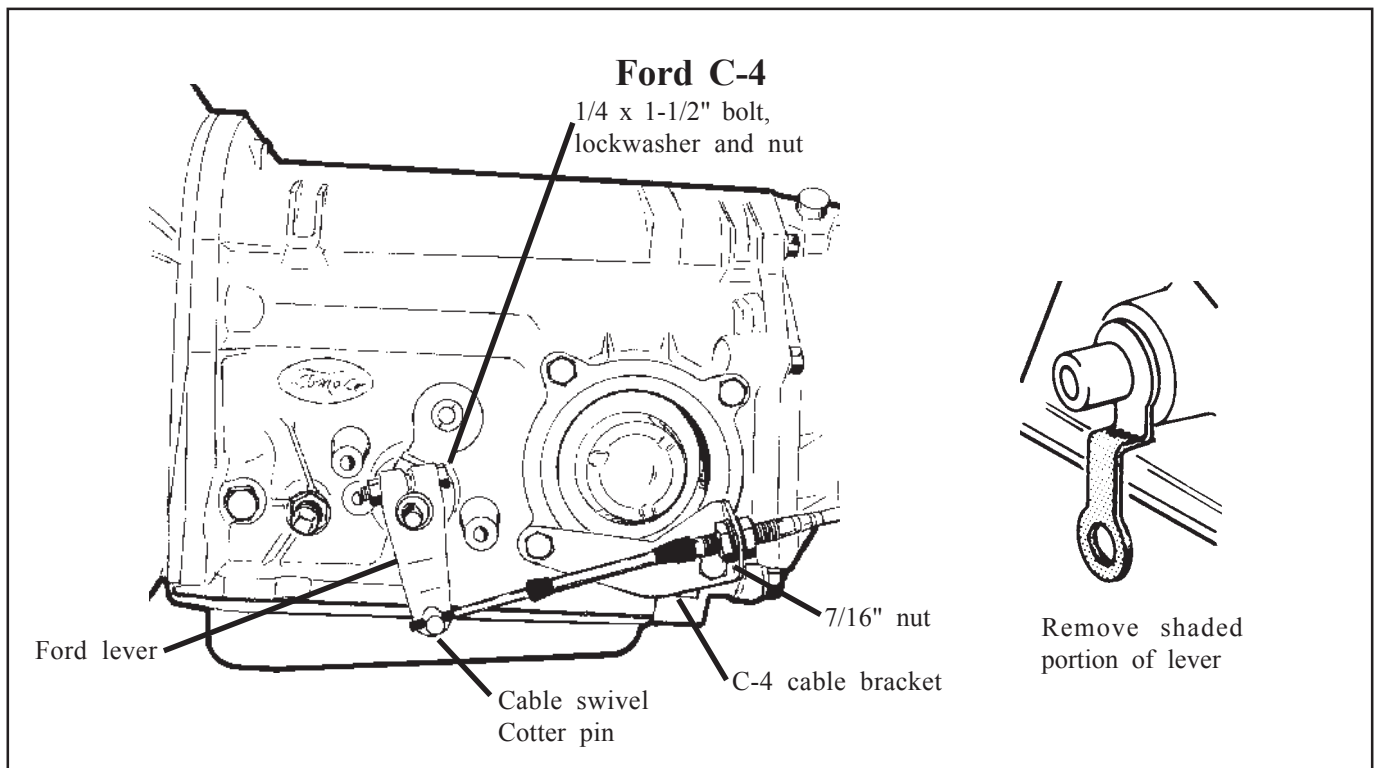

Figure 1
**STEP 2.** Install the **B&M** selector lever, See **figure 1**. Note: The B&M lever must point downward for proper operation. If the stock shift lever on your transmission points down, you will have to re-
move the lower part of the stock arm by cutting it off to clear the **B&M** lever, (See **figure 1**). Install **B&M** selector lever onto shift shaft of transmission. Align selector lever so when it points straight down it travels equal arcs in both directions from center, then tighten 1/4"-20 x 1 1/2" pinch bolt and nut. The lever should travel smoothly from front to back with a positive click in each gear position. Make sure O-ring is in position on downshift shaft and install downshift
**STEP 3.** Remove the two lower bolts from the rear servo cover. Install cable bracket in position, (See **figure 1**). Install two servo cover bolts as removed and tighten 12-13 ft. lbs. Do not overtighten as this can distort servo cover.